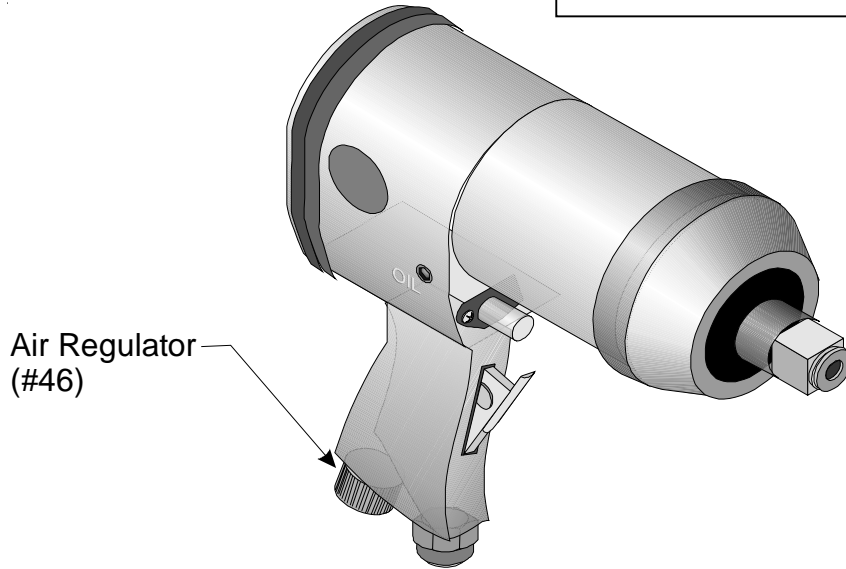

Figure 3 — Adjusting the Reverse Power Setting
Step 5: Select the power setting for Loosening by adjusting the AIR REGULATOR (#46) located on the bottom of the Impact Wrench as shown in Figure 3. When the Air Regulator is completely screwed in it is at it's lowest setting. Air pressure increases as you loosen the Air Regulator.